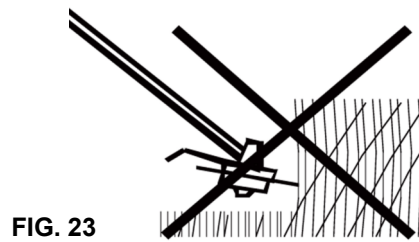

FIG. 23
7. Trim longer grass in stages. **DO NOT cut long grass in one cut (Fig. 23).**
8. Feed the trimming line if it is worn-out or ripped by tapping the bumper (38) on stable ground.